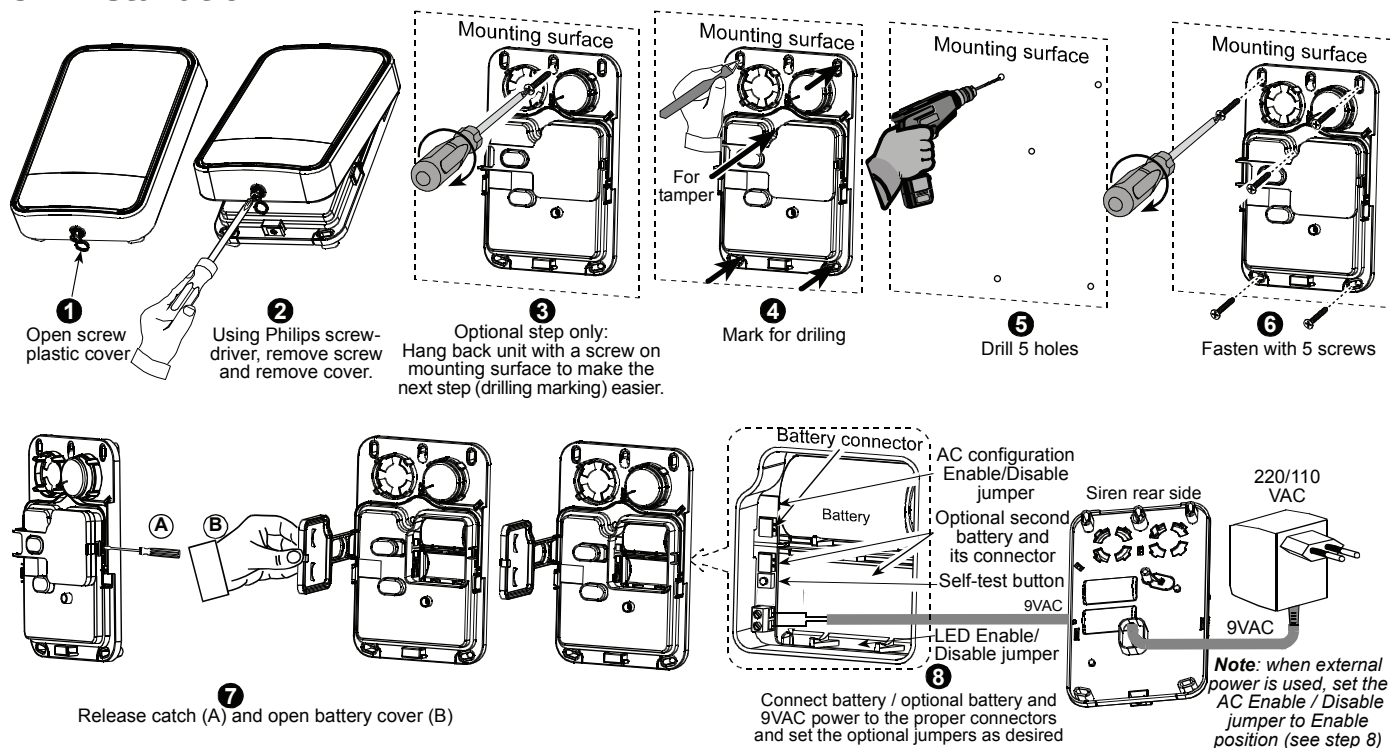

Figure 3 – Installation
- **Siren activity LED:** A flashing LED (optional, at the bottom of the siren front panel) indicates siren activity (can be disabled by an internal jumper, see fig. 3, step 8)
Press the self test button (see figure 3 step 8). Low level piezo sounds and flash lights indicate that the siren is fully operational.
instructions, and momentarily press the Self-Test button (see figure 3 step 8) when you are instructed.